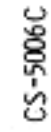

Figure 2.12-41. Waste Management System
2.12.6.3.1 General Description (Figure 2.12-41).
2.12.6.3.3 Fecal Subsystem (Figure 2.12-41).